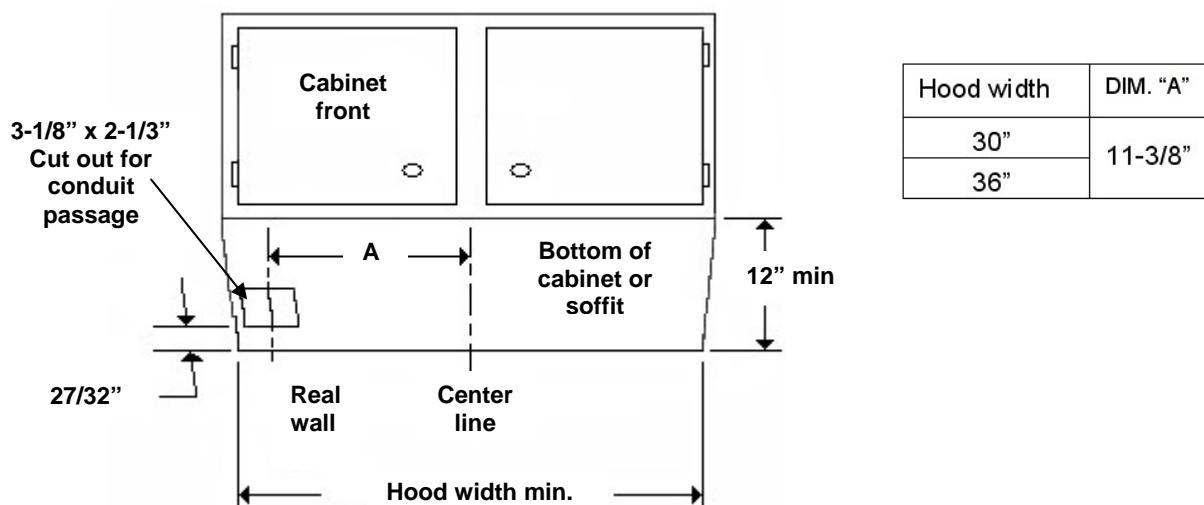
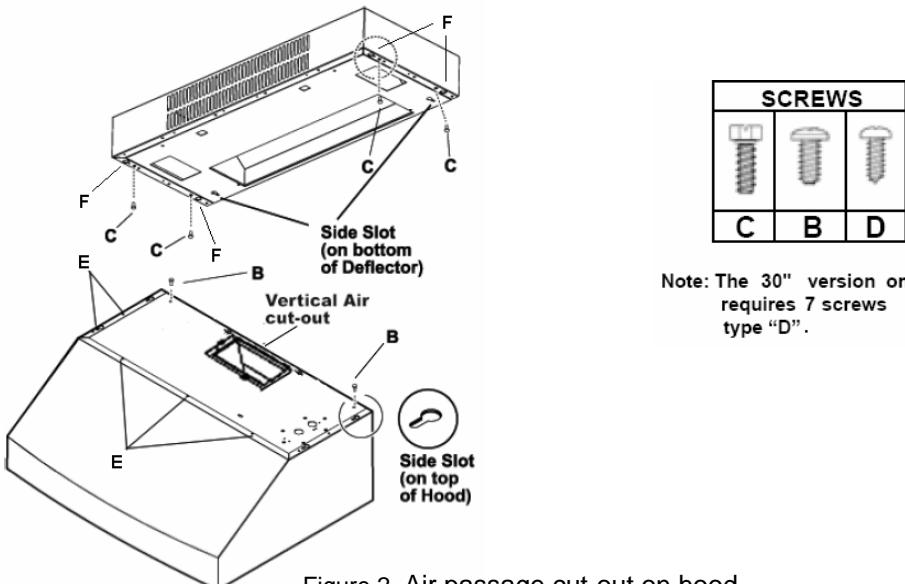

Figure 1. Conduit Passage Cutout
Figure 2. Air passage cut-out on hood
For cabinet or ceiling preparation take in consideration that there is no need to provide cutouts on walls for vertical or rear air discharge, since there is no need to install any duct work. See the figure 1 for conduit passage cut-out. See figure 2 for air passage cut-out on hood.
- Attach two pins **B** on top of the hood. See Figure 2. Make sure a Gap exists between the hood and the hood surface.
- 1) Attach four screws **C** on bottom of the deflector, do not tight completely, and leave approximately  $\frac{1}{4}$ " from the bottom of the air deflector to the screw head. See Figure 2.
- 2) Install the deflector on top of the hood so that screws **C** and pins **B** go respectively into the existing side slots at the top of the hood and the existing side slots at the bottom of the deflector (See Figure 2), slide deflector forward until it mechanically stops.
- 4) Attach screws **D** from inside the hood through points **E** to attach the air deflector to the hood (see Figure 2, number depends on hood size).
- 4) Hang the deflector at the screws through the side slots present in the deflector top. Tight the four screws through slots **F**. See Figure 2.
- 5) Attach four screws **C** at the bottom of the deflector, do not tight completely. See Figure 2.
- 6) Install the hood at the bottom of the air deflector so that screws **C** and pins **B** go respectively into the existing side slots at the top of the hood and the existing side slots at the bottom of the air deflector (See Figure 2), slide the hood rearward until it stops.
- 8) Attach screws, from inside of the hood through point **E** to final assembly Deflector to the hood (see Figure 2, number depends on hood size).